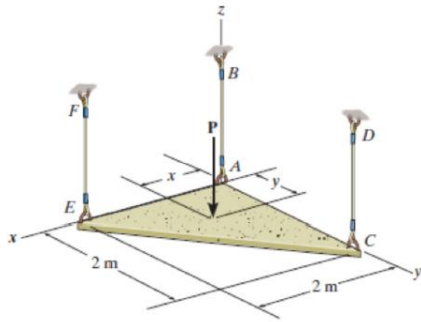

Figure 3
3. If $P = 6\text{ kN}$, $x = 0.75\text{ m}$ and $y = 1\text{ m}$, determine the tension developed in cables AB , CD , and EF (Fig. 3). Neglect the weight of the plate.